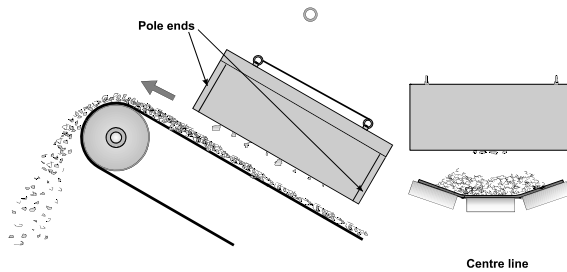
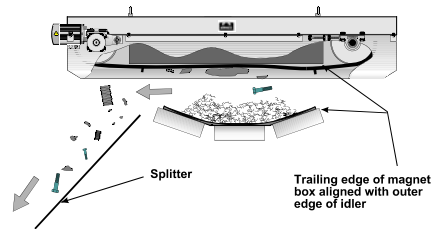

Figure 3
Figure 4
A separator mounted over a moving bed of material at right angles to the conveyor is referred to as **Position 2** (Figs. 3 and 4). This installation usually requires a stronger magnet than **Position 1** since tramp iron at the bottom of the burden is more difficult to extract.
- Manually cleaning suspended magnets should be installed on the centreline of the material conveyor, Fig. 3. Self-cleaning suspended magnets should be installed with the trailing edge of the magnet box immediately above the outer edge of the conveyor idler. Refer to Fig. 4.